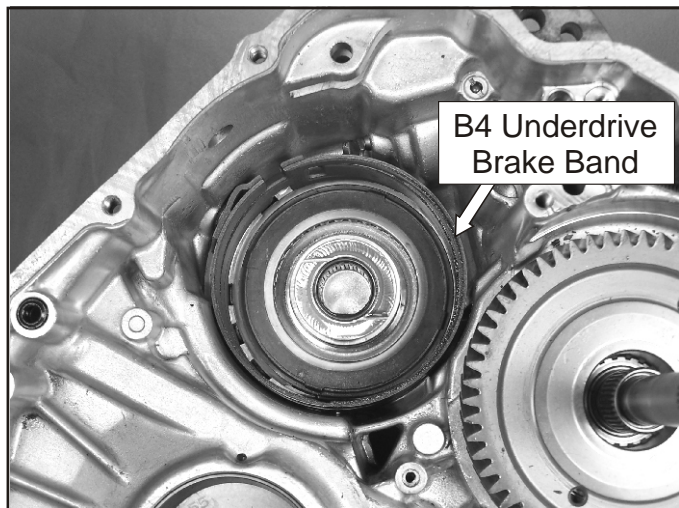

Figure 256
- 184. Install the B4 underdrive brake band as shown in Figure 256.